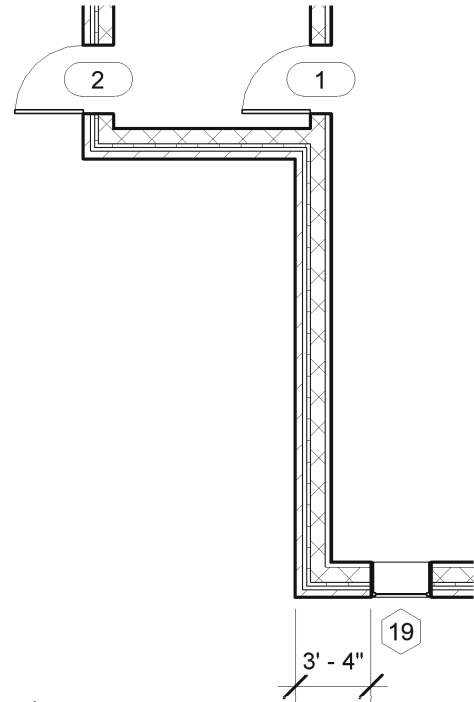

FIGURE 3-5.9 Exterior window
16. Insert a single window as shown in **Figure 3-5.9**. The window should be inserted with masonry coursing in mind. Ensure *Tag on Placement* is active.